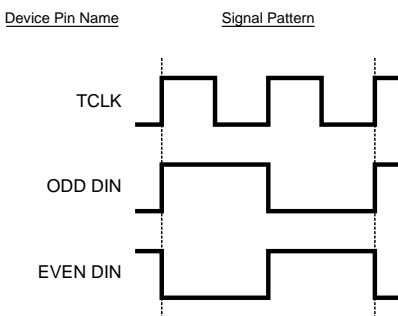
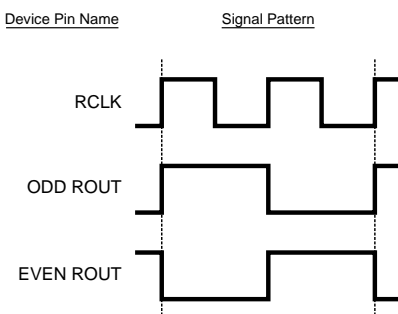
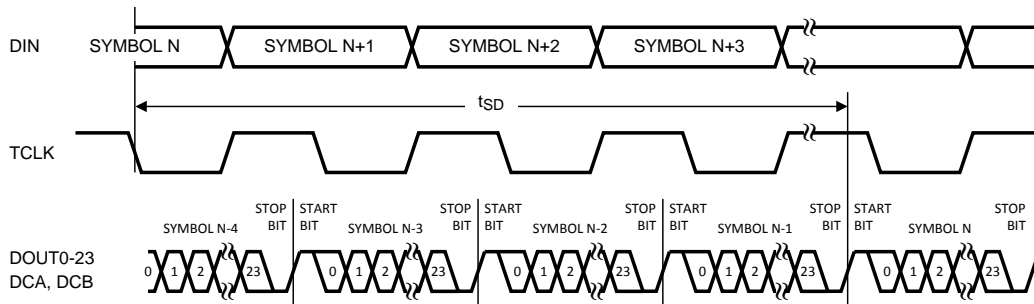

Figure 1. Serializer Input Checker-board Pattern
Figure 2. Deserializer Output Checker-board Pattern
Figure 8. Serializer Delay
- (1) Figure 1 Figure 2 Figure 8 Figure 12 Figure 14 show a falling edge data strobe (TCLK IN/RCLK OUT).